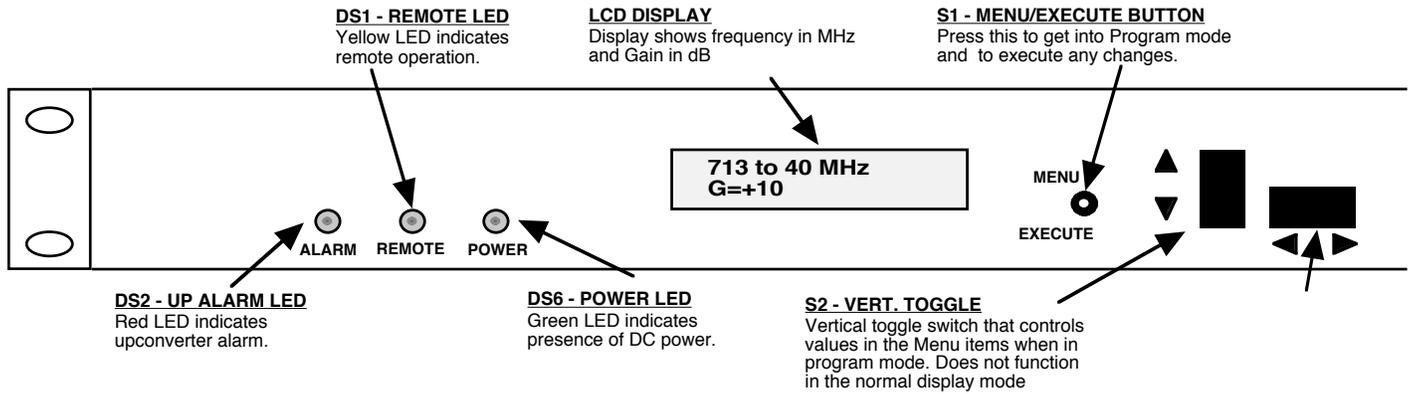

FIGURE 2.2 2016-75-40 Front Panel Controls and Indicators
7. Be sure DS6 (green, DC Power) is on and DS2 (red, Alarm) is off (Figure 2.2).
Alarm indications appear on the LEDs (see figure 2.2).